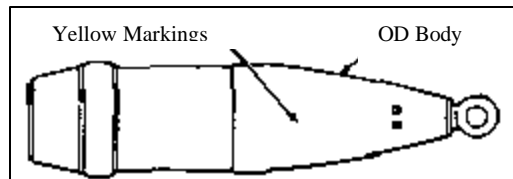
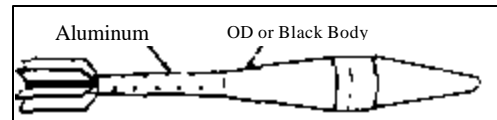
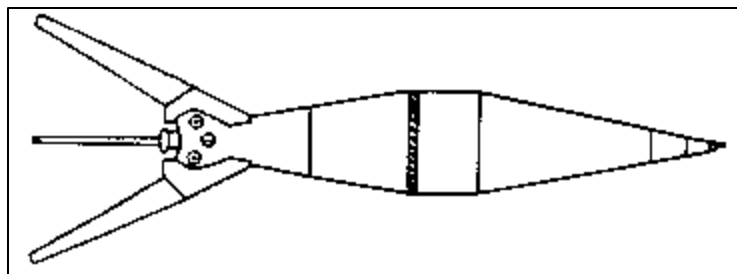
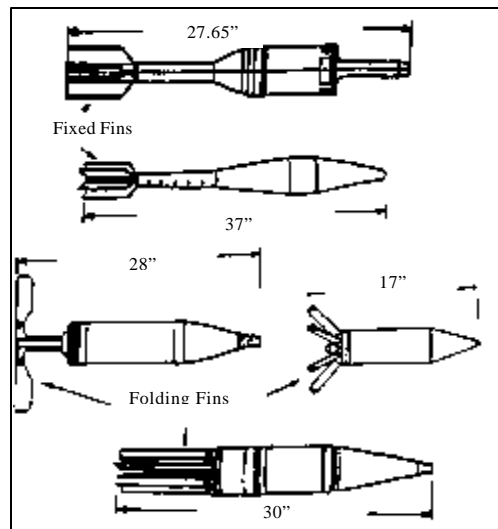

Figure 38. Spin Stabilized artillery projectile.
Figure 39. Fixed-fin artillery projectile.
Figure 40. Folding-fins artillery projectile.
Figure 41. Fin-stabilized projectiles.
- (1) Artillery projectiles include all ammunition used in weapons of caliber greater than 0.70 inch. They may be solid metal, or they may be filled or partially filled with an explosive, chemical, or nuclear warhead, or with submunitions. Some projectiles will not detonate on impact after becoming armed. The soldier must not attempt to move or disturb these items. On spin stabilized projectiles, engraved rotating bands indicate that the projectile has been fired. On fin stabilized projectiles, it must be assumed that they have been fired and have very sensitive fuzing and should not be moved or jarred.
- (2) An artillery projectile can generally be described as a steel container having a cylindrical body with a rounded or pointed nose.
- (3) Projectiles like bombs can have impact or proximity fuzing. They can also be fuzed with time-delay fuzing that functions at a preset time after firing. For safety reasons, all projectiles should be considered as having proximity fuzing. Getting too close to proximity fuzing will cause the fuze to function, and the projectile will blow up. Depending on the type of filler and the design of the projectile, the fuze can be in the nose, or in the base of the projectile.
- (4) Projectiles that maintain their stability in flight by means of spin imparted by rotating bands are classified as spin stabilized projectiles. These projectiles may have one or more rotating bands located to the rear of the center of gravity. The projectile shown in Figure 38 is spin-stabilized. Projectiles stabilized in flight by fins are classified as fin-stabilized. Fin stabilized projectiles may have fixed fins, as shown in Figure 39 and figure 41, or folding fins, as shown in Figure 40 and Figure 41.